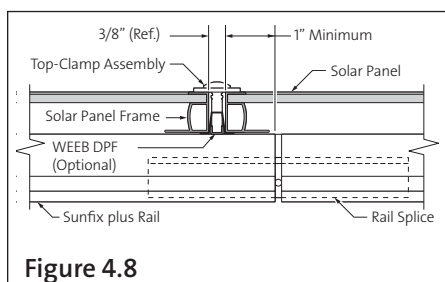

Figure 4.8
- 4.8. Continue to lay solar panels in place, bringing them flush to the plastic tabs, and tightening the Top-Clamp Assemblies – similar to Step 4.7. (Revealing a $\frac{3}{8}$ " gap between solar panels.) Insert the End Spacer at the end of the row as in Step 4.7. Be sure solar panel edge is greater than 1" from rail end/splice, as shown in **Figure 4.8**.